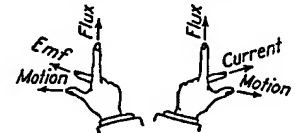

FIG. 2-9 Fleming's generator and motor rules.
**63. Fleming's Rules.** The relative direction of flux, emf, and motion in a revolving-armature generator may be determined with the right hand by placing the thumb, index, and middle fingers so as to form the three axes of a coordinate system and pointing the index finger in the direction of the flux (north to south) and the thumb in the direction of motion; the middle finger will give the direction of the generated emf (Fig. 2-9). In the same way, in a revolving-armature motor, by using the left hand and pointing the index finger in the direction of the flux and the middle finger in the direction of the current in the armature conductor, the thumb will indicate the direction of the force and, therefore, the resulting motion. These two rules, indicated in Fig. 2-9, are known as Fleming's rules.